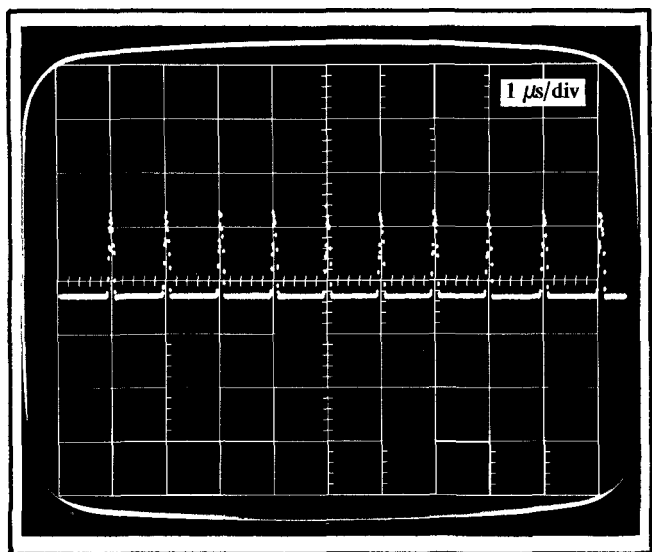

Fig. 5-5. CRT display for setting HORIZ GAIN control.
c. Adjust the HORIZ GAIN control for 1 time mark per division on the CRT; see Fig. 5-5.